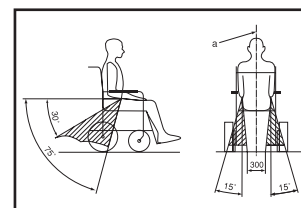

Figure 2
- Keep your speed under control on slopes. (Figure 2).
- The lap belt should run low over the user's waist. The angle between the belt and the floor area should be between 30° and 75° (a larger angle is more desirable) (see Figure 2).